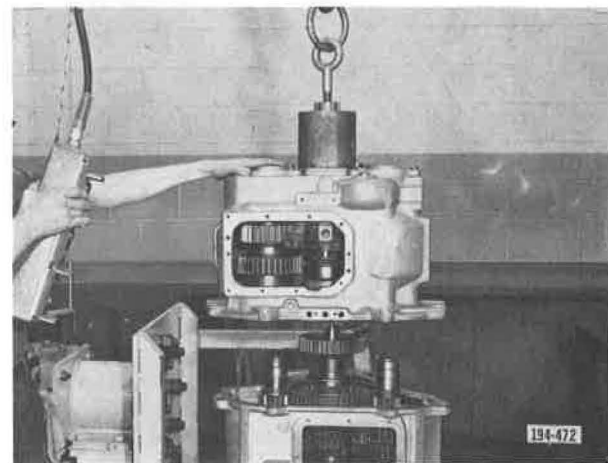

Figure 5-575. Removing Rear Case from Front Case
8. Remove transmission front case to rear case capscrews and dowel bolts, and with the aid of a hoist, remove rear case from front case. See Figure 5-575. Place rear case on a clean bench for disassembly.